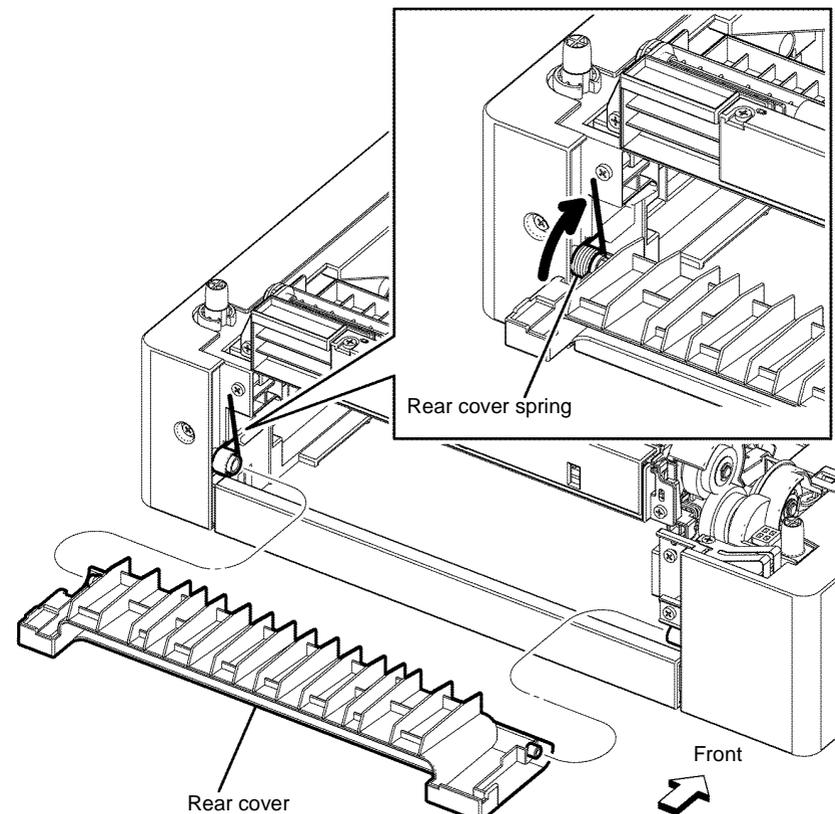

Figure 1 Option feeder rear cover removal
3. Remove one side of the rear cover spring from the option feeder rear cover, Figure 1.
4. Remove the left boss from the hole, then remove the option feeder rear cover, Figure 1.